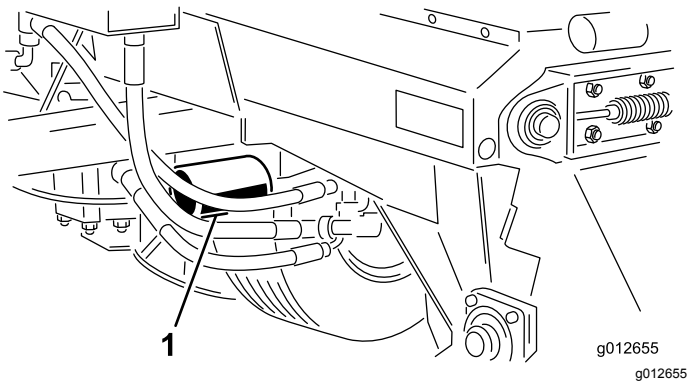

Figure 36
2. Clean area around filter and hydraulic manifold, align a drain pan under filter, and remove filter (Figure 36).